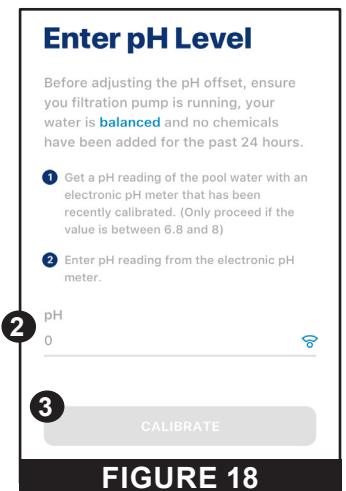

FIGURE 18
6. Enter the pH results (2) from your manual water test and press CALIBRATE (3). See **Figure 18**.